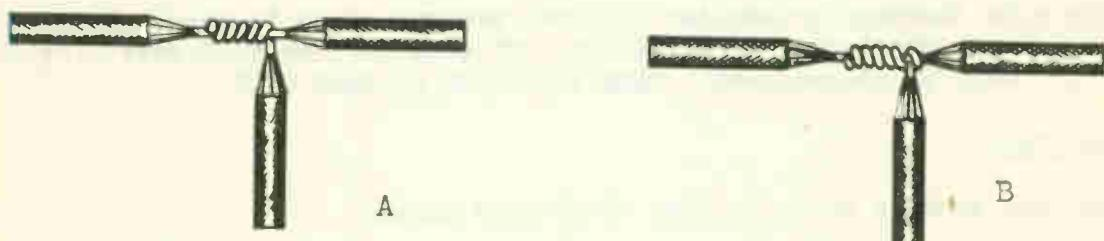

Fig. 2 Tap and tee splices
5. Make the two different tap or tee splices, Fig. 2, being careful to strip out approximately  $\frac{5}{8}$  inch on existing or running line. The bare end of the tap wire or junction wire should be at least 4 inches in length. Excess can be clipped after finishing splice.